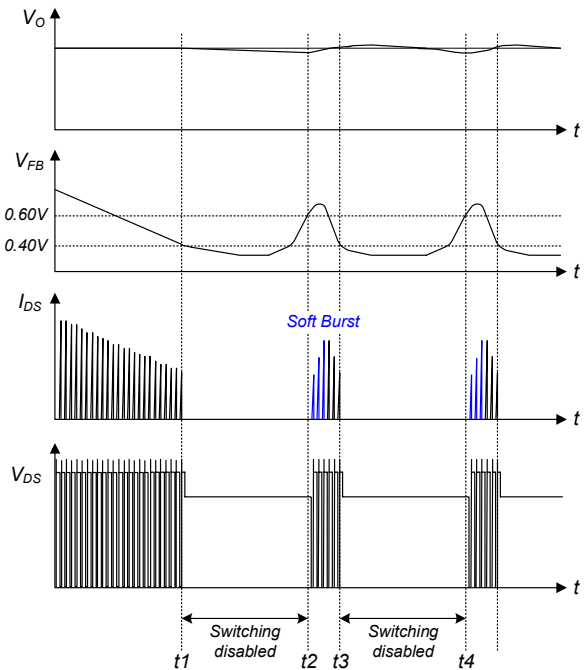

**Figure 22. Output-Short Protection**
**4.3. Output-Short Protection (OSP):** If the output is shorted, steep current with extremely high di/dt can flow through the SenseFET during the minimum turn-on time. Such a steep current brings high-voltage stress on the drain of the SenseFET when turned off. To protect the device from this abnormal condition, OSP is included. It is comprised of detecting  $V_{FB}$  and SenseFET turn-on time. When the  $V_{FB}$  is higher than 2V and the SenseFET turn-on time is lower than  $1.2\mu s$ , the FSGM0565RB recognizes this condition as an abnormal error and shuts down PWM switching until  $V_{CC}$  reaches  $V_{START}$  again. An abnormal condition output short is shown in Figure 22.